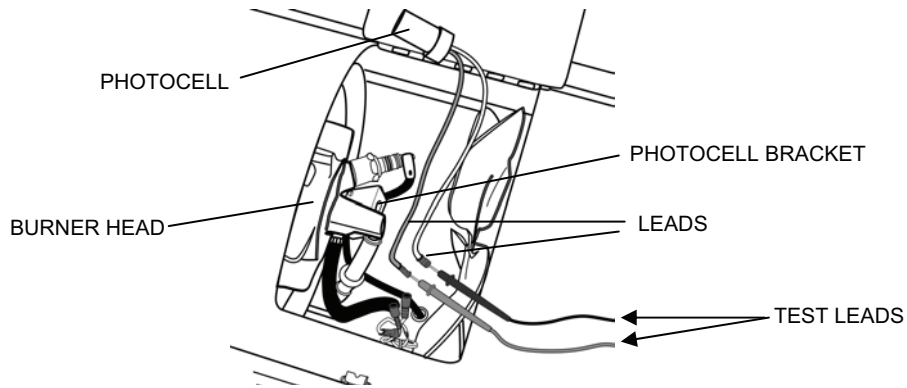

Figure 9. Diesel Heater Photocell Test Set-Up.
1. Test the diesel heater photocell as follows (see Figure 9):